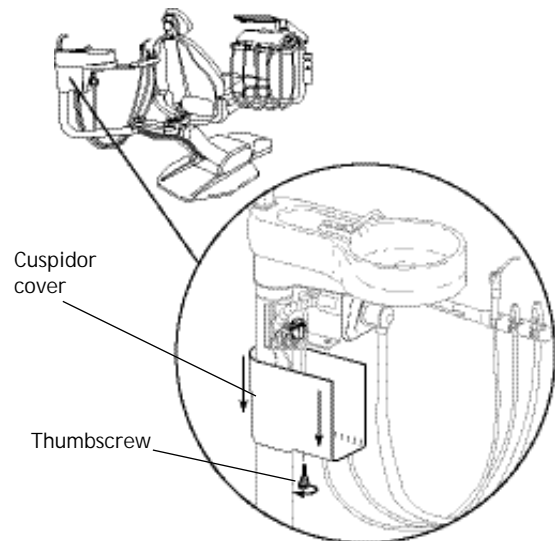

Figure 15
(see Figure 15).
7. Remove the thumbscrew underneath the cuspidor and slide the cover down (see Figure 15).